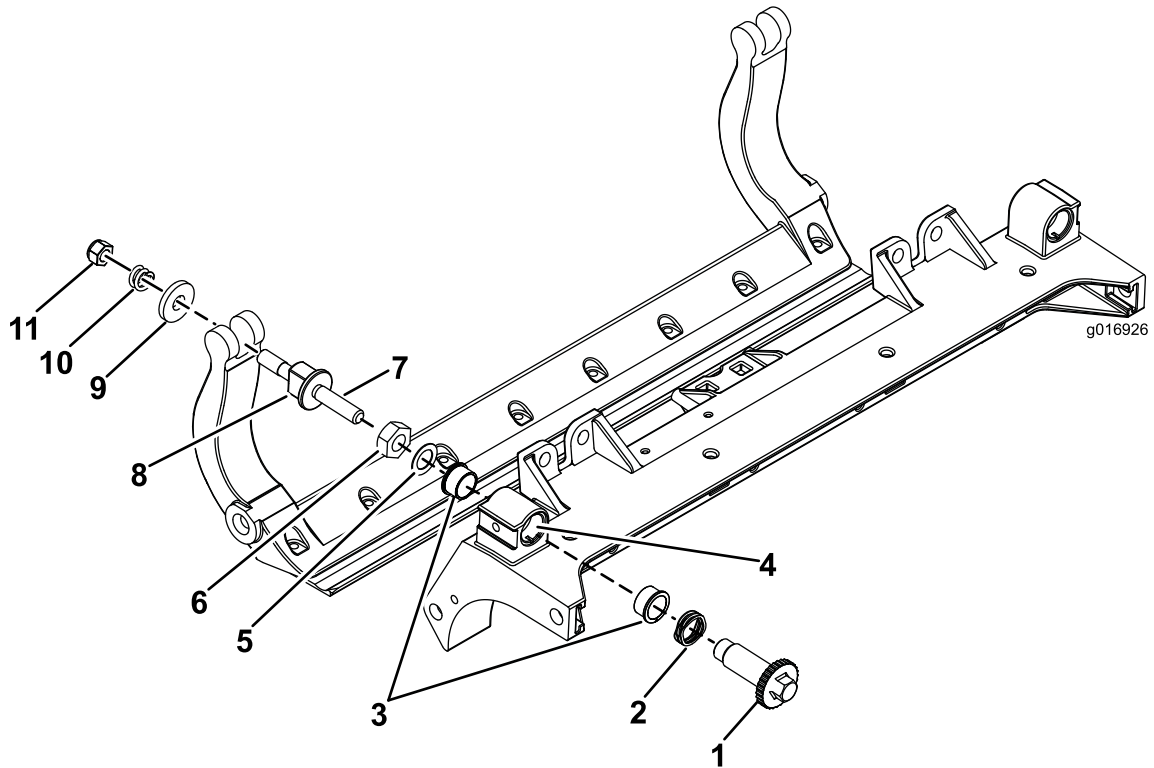

Figure 36
1. Remove all parts (refer to the *Installation Instructions* for the HD DPA Kit and to Figure 36).
2. Apply anti-seize compound to the inside of the bushing area on cutting unit center frame (Figure 36).
3. Align the keys on flange bushings to the slots in the frame and install the bushings (Figure 36).
4. Install a wave washer onto the adjuster shaft and slide the adjuster shaft into the flange bushings in the frame of the cutting unit (Figure 36).
5. Secure the adjuster shaft with a flat washer and locknut (Figure 36).
12. Place a steel washer outside each of the nylon washers (Figure 36).
Note: The washers on the inside may have a gap (Figure 36).
15. Tighten the nut on each bedbar-adjuster assembly until the compression spring is fully compressed, then loosen the nut 1/2 turn (Figure 36).